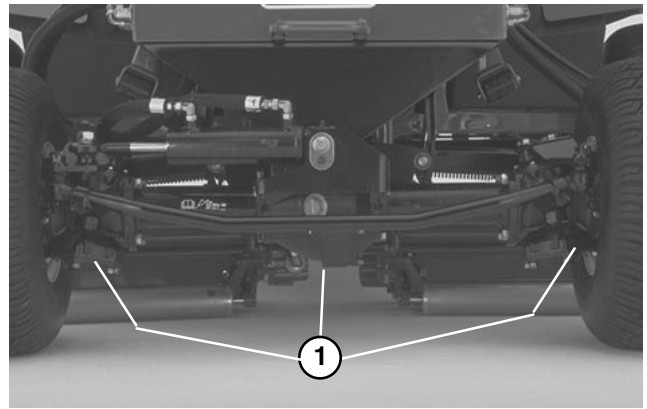

Figure 69
4. Rotate, clockwise, until distance between inside of eye bolt loop and inside of spring anchor plate is shortened 1/8", as shown in figure 69. Tighten hex nut.
CHANGING REAR AXLE LUBRICANT (Fig. 69) (Models 03541 & 03544 only)